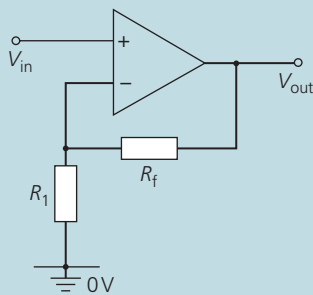

Figure 9
6. Figure 9 shows an op-amp in the non-inverting configuration, with  $R_1 = 4.7\text{ k}\Omega$  and  $R_f = 470\text{ k}\Omega$ . What is the value of the closed-loop gain?